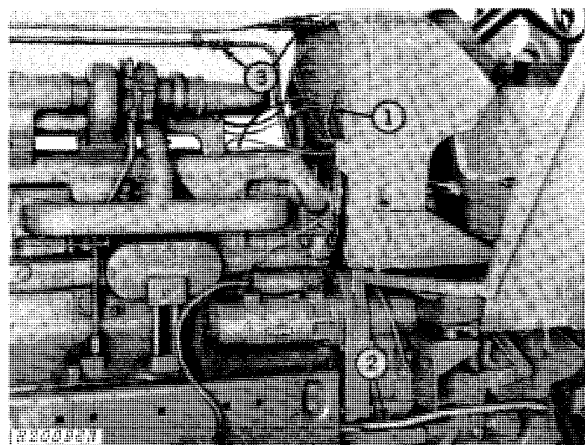

Fig. 8—Left-Hand Separation Steps
1. Disconnect primary wiring lead (Fig. 8).